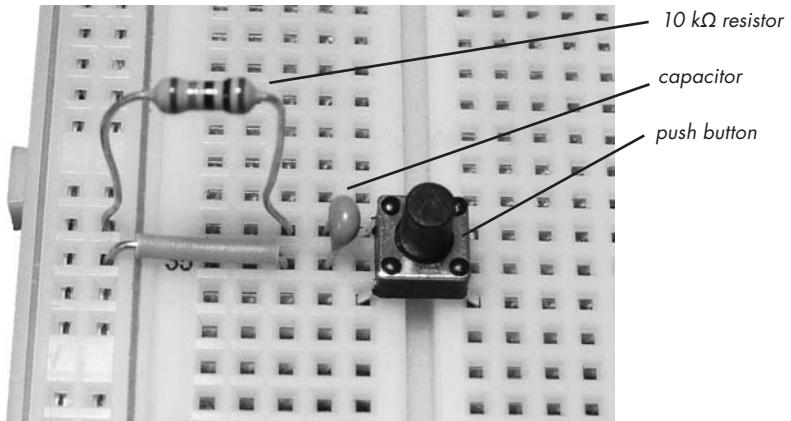

Figure 4-21: 10  $k\Omega$  resistor, capacitor, and push button
2. Turn the breadboard 90 degrees counterclockwise and insert the 10 k $\Omega$  resistor, a short link wire, and the capacitor, as shown in Figure 4-21.